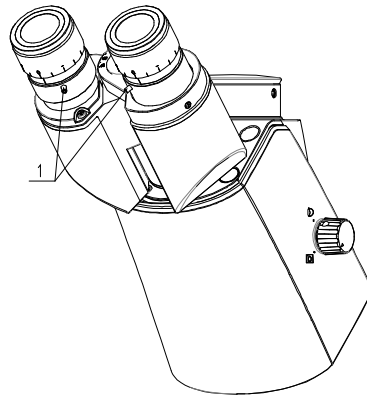

Fig.11 Locking Eyepiece
Eyepiece can be tightened by using thumb screw ① (Fig.11). If want to change eyepiece, must unscrew it at first.